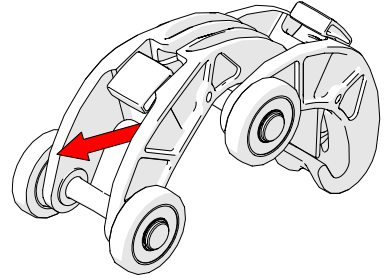

Fig. 65 - Pull the link backwards to secure catch
2. Pull the chain link until you hear a click that ensures the latch has been set (*Fig. 65*).